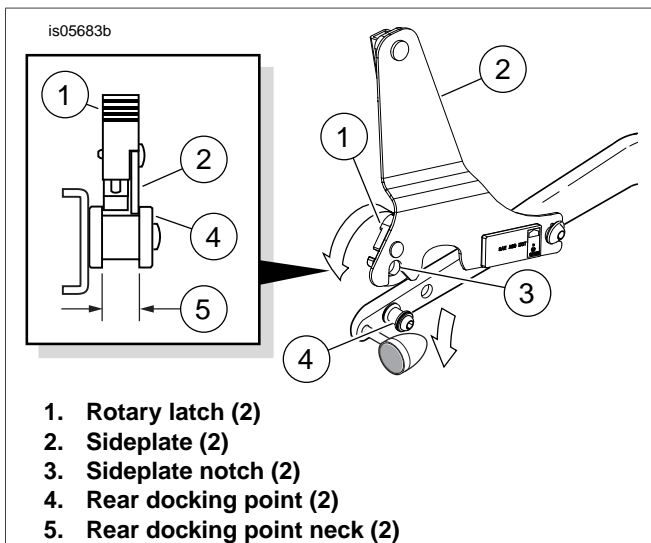

Figure 3. Lower Rear Notches Onto Rear Docking Points
2. See Figure 3. Position the rotary latches (1) over the rear docking points (4). Pull the rotary latches (1) back to their rearmost position as shown.